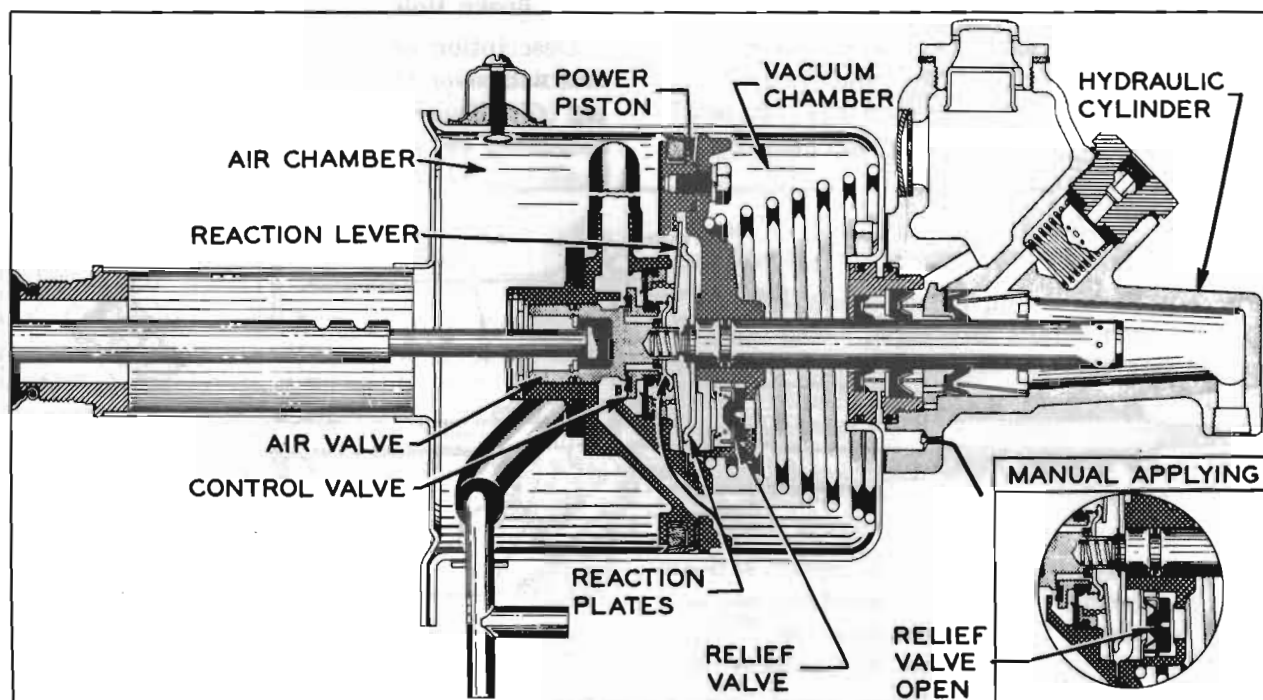

Figure 9-15—Applying
(2) *Applying.* See figure 9-15. As the brake pedal is depressed the push rod moves the air valve until its annular seat contacts the floating control valve, at which point atmospheric pressure is sealed off from the *vacuum* chamber.
piston and the inner ends press against the valve reaction plate which now bears against a shoulder of the air valve. See figure 9-15.
(6) *Manual Applying.* When the engine is not running and all reserve vacuum is exhausted, the brakes are applied entirely by foot pressure on the brake pedal. As the pedal is depressed, the air valve and control valve move first. A shoulder on the air valve then contacts the end of the hydraulic piston. The hydraulic piston moves into the hydraulic cylinder, causing the brakes to be applied in the usual way. However, the pedal pressure for a given brake application is considerably greater. See figure 9-15.